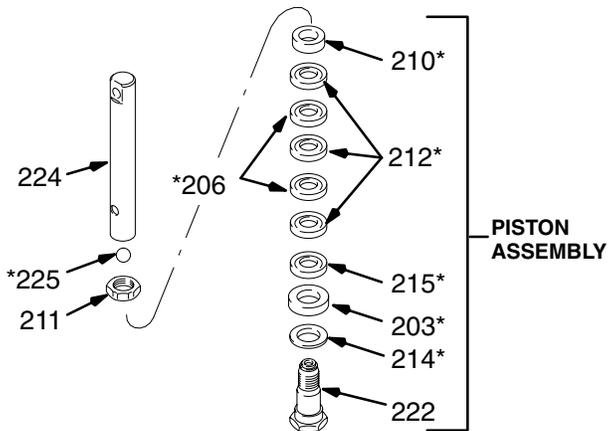

Fig. 25
7. Clamp the flats of the piston rod in a vise. Loosen the retaining nut (211). Unscrew the piston valve (222) from the rod. Remove all parts from the piston valve (222). See. Fig 25.
1. Check the outside of the piston rod (224) and the inside of the sleeve (218) for scoring or scratches. If these parts are damaged, new packings will not seal properly. Replace these parts if needed.
2. Stack the backup washer (214), seal (203*), female gland (215*), alternate packings (212*,206*), and then male gland (210*) onto the piston valve (222). See Fig. 25.
3. Tighten the packing retaining nut (211) against the piston valve (222) to 10.5 in-lb (1.24 N.m).